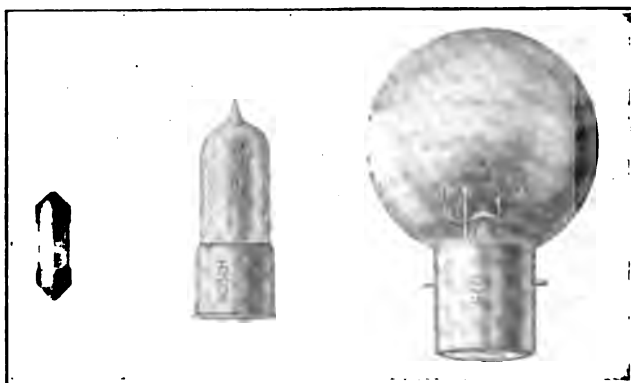

Fig. 185. Bosch Type Automobile Incandescent Bulbs
*Bosch Type.* Fig. 185 shows the Bosch lamps, which are of special form. The headlight lamp at the right is of 25 c.p. and has the filament stretched horizontally across wire supports, while the side lamps of 8 c.p. have a loop of corrugated wire, and the tail lamp, of tubular form, a single filament running straight across it. Tail lamps are usually in series with the instrument lamp so that failure of the latter to light also indicates a failure of the tail lamp.